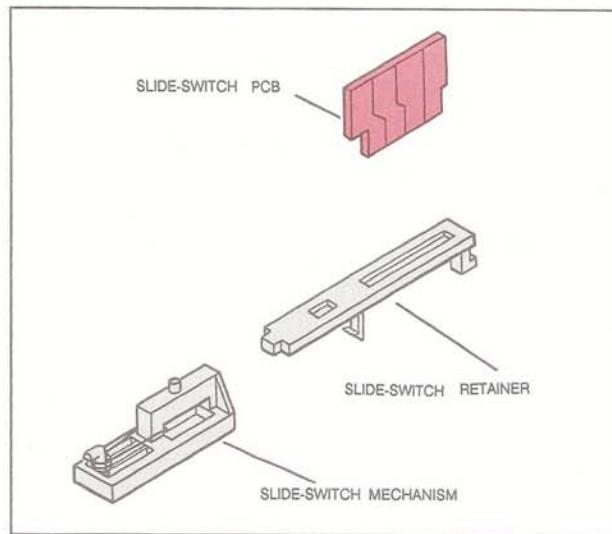

FIG. 59
6. Snap the plastic Drive and Steering switch contact board retainers into the COMPONENT SIDE of the PC board, as illustrated in Fig. 59.